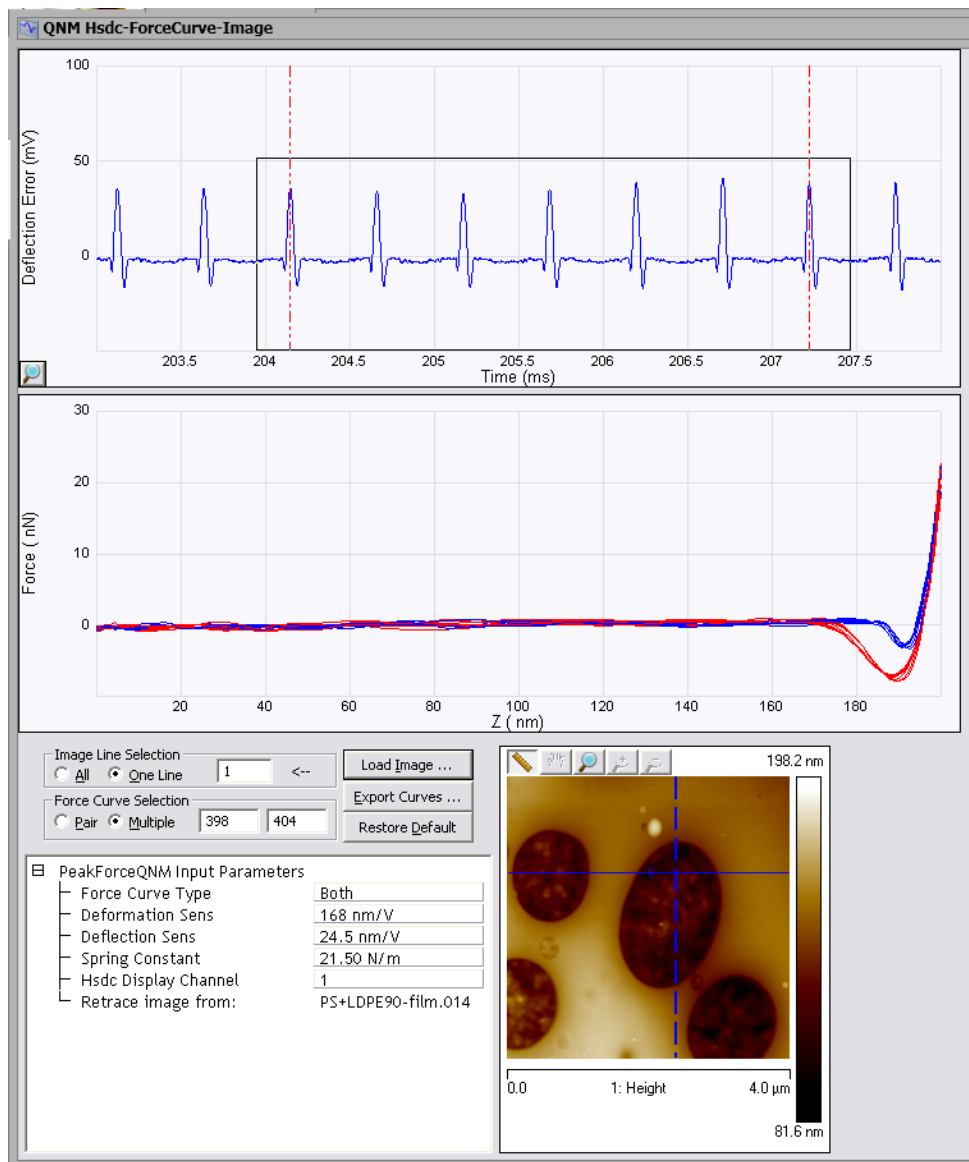

Figure 8.1d: The *QNM Hsdc Force Curve-Image* window
7. The position of the force curves is also represented by the red dashed cursors in the **Deflection Error vs. Time** display, shown in Figure 8.1d. To Zoom in on an area of interest in the graphs, hold down the Control key and draw a box in the preferred area. To Zoom back out, double-click the image or click the magnifying glass icon in the lower left corner of the plot.
- **Pair**: Displays one force curve for each cursor. See Figure 8.1d (in QNM Force Curve Procedure (page 268)) for an example. The red cursors snap to the closest peak in the Deflection Error vs. Time plot. The exported force curves encompass a full cycle around the selected peaks. Force curve number 1 will be the first curve that has a full cycle. This may be the second peak in the time plot. The location of the pair of force curves can be controlled by moving either the dashed blue cursors in the image, the dashed red cursors (see Step 7 in the QNM Force Curve Procedure (page 268)) in the time display or entering the numbers in the **Force Curve Selection** panel.